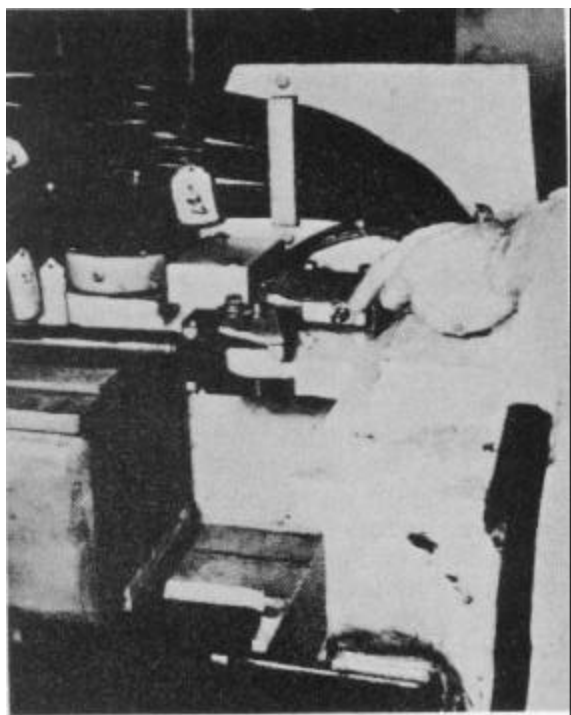
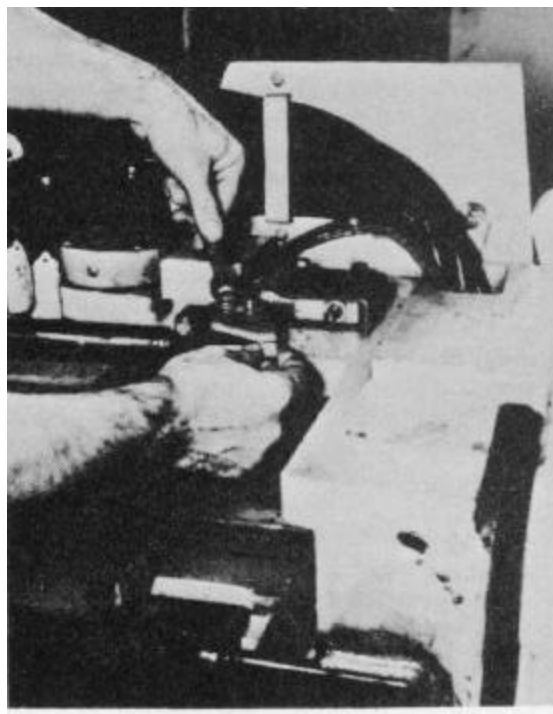

Figure 5-147
Figure 5-148
The pivot switch actuating cam is located at the rod end clevis of the pivot cylinder which rotates along with the pivot arm. The pivot switch is mounted to the uppermost plate of the side shift crosshead and remains stationary (Fig. 5-147, Fig. 5-148).
The pivot interlock limit switch is located on the crosshead top plate behind the mast pivot joint assembly (Fig. 5-147). It is mounted within a protective housing, attached to the crosshead, in a position allowing the switch plunger to contact a rotating cam at the rod end clevis pin of the pivot cylinder. The rotating cam is bolted to the pivot cylinder rod end clevis so the extension of the cylinder to pivot the mast will also rotate the cam.
Pivot the mast assembly to the full clockwise position. This will clear the cam from the pivot interlock switch roller plunger (Fig. 5-147).
3. Examine the two number 6-32 NC mounting screws that attach the switch base to the mounting bracket; tighten if required. Figure 5-147 shows the location of the pivot interlock limit switch and the plunger being checked.
The first method is by adjusting the angular position of the rotating cam. Use a 9/16 wrench to loosen the clamp screw (Fig 5-148). Take the tip of the cam and rotate it either clockwise or counterclockwise to obtain 15 degree maximum pivot of the pivot arm when the switch circuit closes. Tighten clamp screws and check operation as described in step 4.
The second method for adjustment will permit inward and outward movement of the complete interlock switch assembly. Loosen the two 3/8-16 NC cap screws that attach the housing to the crosshead using a 9/16 wrench. (Fig. 5-148). Slots are provided in this housing for longitudinal adjustment. Position the switch to the required location and tighten. Check switch operation as described in step 4.